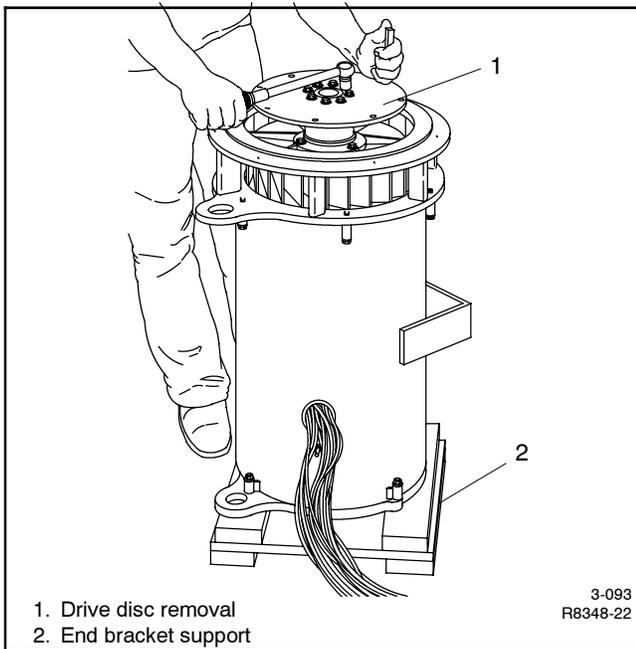

Figure 4-6 Alternator Support, Drive Disc, and Fan Removal
- To remove the rotor assembly, hook hoist to adapter and place the alternator assembly on the floor in a vertical position. See Figure 4-6. Before lowering assembly, place boards along edge of end bracket to prevent damage to the photo transistor circuit board.
- Remove the drive discs and fan from the alternator assembly. See Figure 4-6.